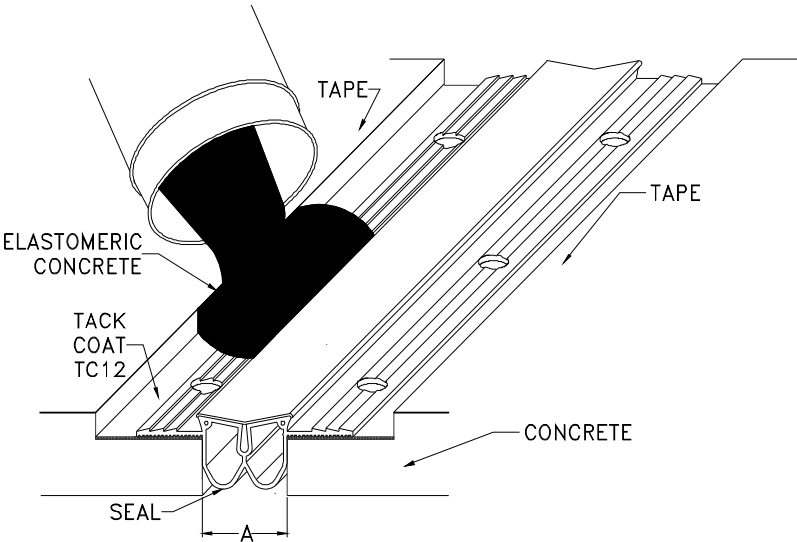

Figure 8
STEP 10. Pour the Balco Elastomeric Concrete - EC11 into the blockout and trowel smooth from the upper outer ridge of the seal to the blockout corner (see Figure 8). Ensure that the Elastomeric Concrete - EC11 is level and that it extends above the seal approximately 1/4".